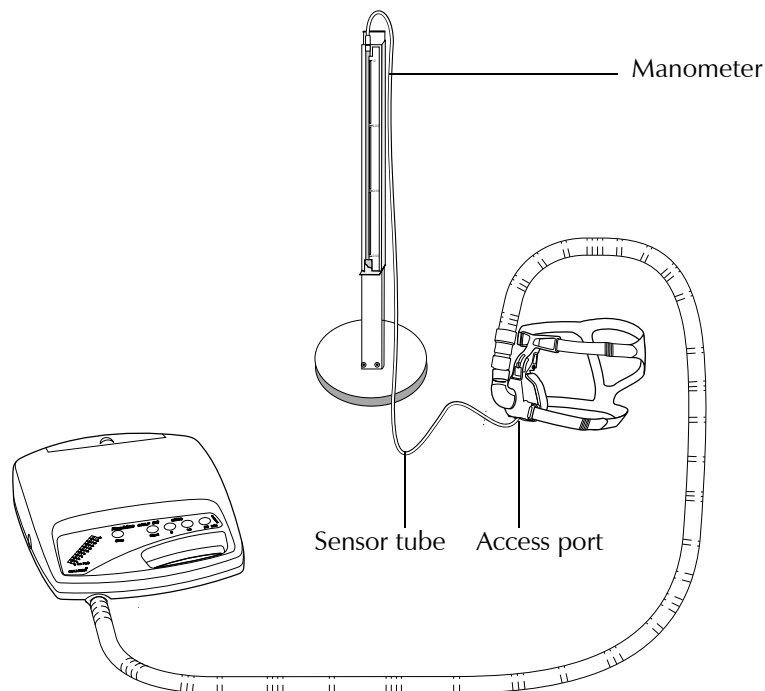

Figure 2 : Setting the Treatment Pressure
1. Assemble the flow generator as the patient would normally use it, complete with air tubing, but do not connect the mask system. Connect all accessories (eg, humidifier, filters, O2 etc) that are normally used. Ensure that SmartStart/Stop (Elite model only) is disabled (see Figure 2, Setting the Treatment Pressure, on page 13).